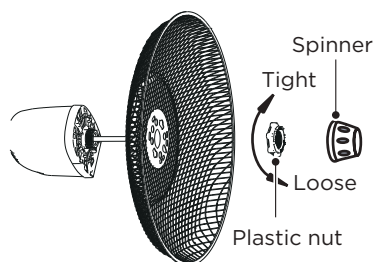

Fig.7
- 1 Unscrew the spinner clockwise (or take the spinner out from the bag) and the plastic nut counterclockwise to remove both of them. Fix the rear grill to the motor then tighten the plastic nut again. (Fig. 7)